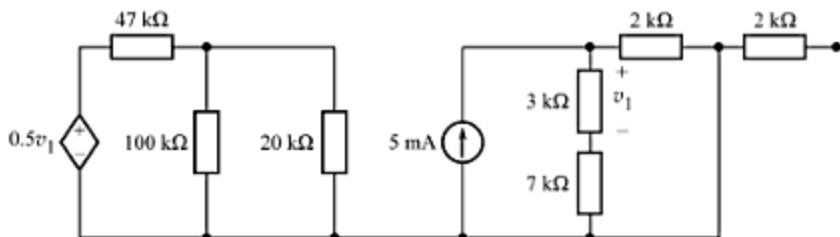

Fig. A-108
- A-74. Determine the power absorbed by the 47-kΩ resistor in the circuit of Fig. A-108.